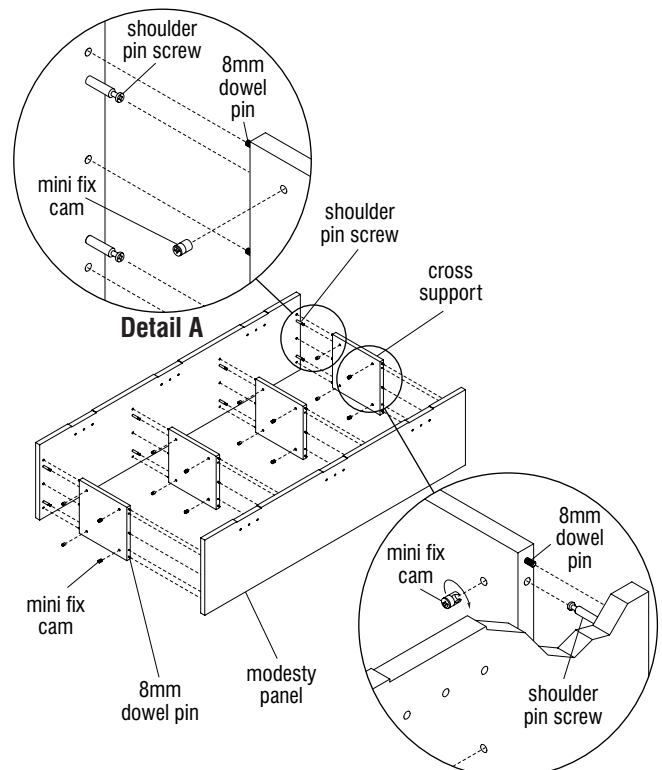

Figure 2
**Note:** Modesty panels come with three or four cross supports depending on the length of the modesty panel. The modesty panel shown in this assembly has four cross supports (Figure 2).
4. Locate the modesty panels. As illustrated, twist in two shoulder pin screws into the pre-drilled holes of the modesty panel (Figure 2 & Detail A). Repeat step to install the remaining shoulder pin screws into the modesty panels.
support. Then, insert four mini fix cams into the cross support. Make sure the openings on the mini fix cams face towards the outside edge so that when assembled the shoulder pin screws can be fully inserted into the mini fix cams (Figure 2 & Detail B).
6. Locate the first modesty panel to assemble the cross supports. Align and position the dowels and mini fix cam holes on each cross support to the first modesty panel. Make sure the cross supports are fully seated against the modesty panel (Figure 2).
7. Then align and position the shoulder pin screws and dowel holes on the second modesty panel to the mini fix cam holes and dowels on the cross supports. Make sure the modesty panel is fully seated against the cross supports (Figure 2).
8. Rotate clockwise all mini fix cams to engage each shoulder pin screw which will tighten and secure the modesty panels to the cross supports (Figure 2).